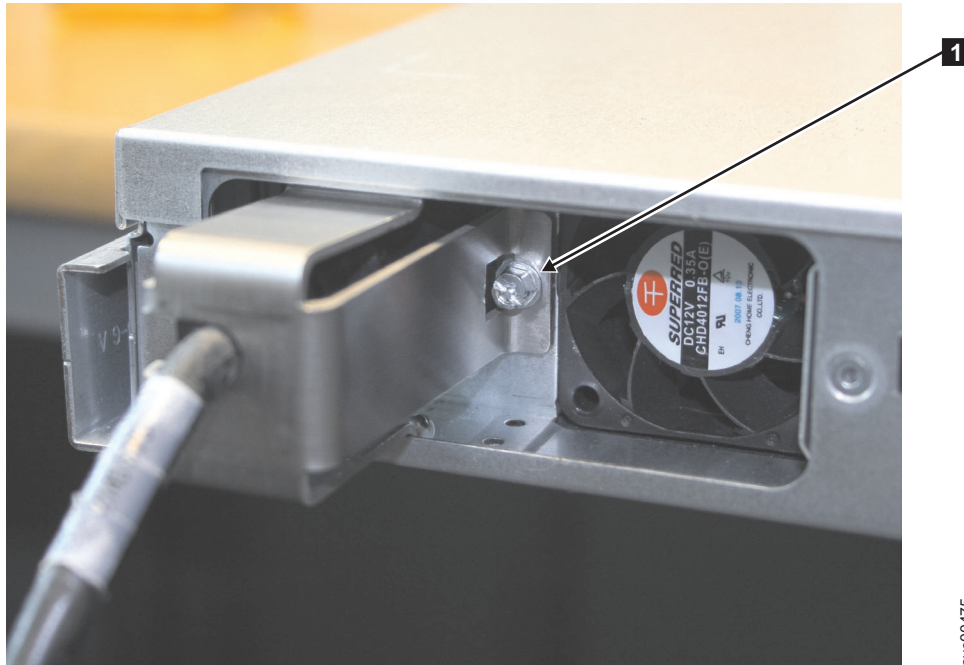

Figure 23. SAN Volume Controller 2145-8A4 with the cable-retention bracket installed
1. With the node turned off, unscrew the retaining screw **1**, shown in Figure 23, half a turn, but do not fully loosen or remove it.